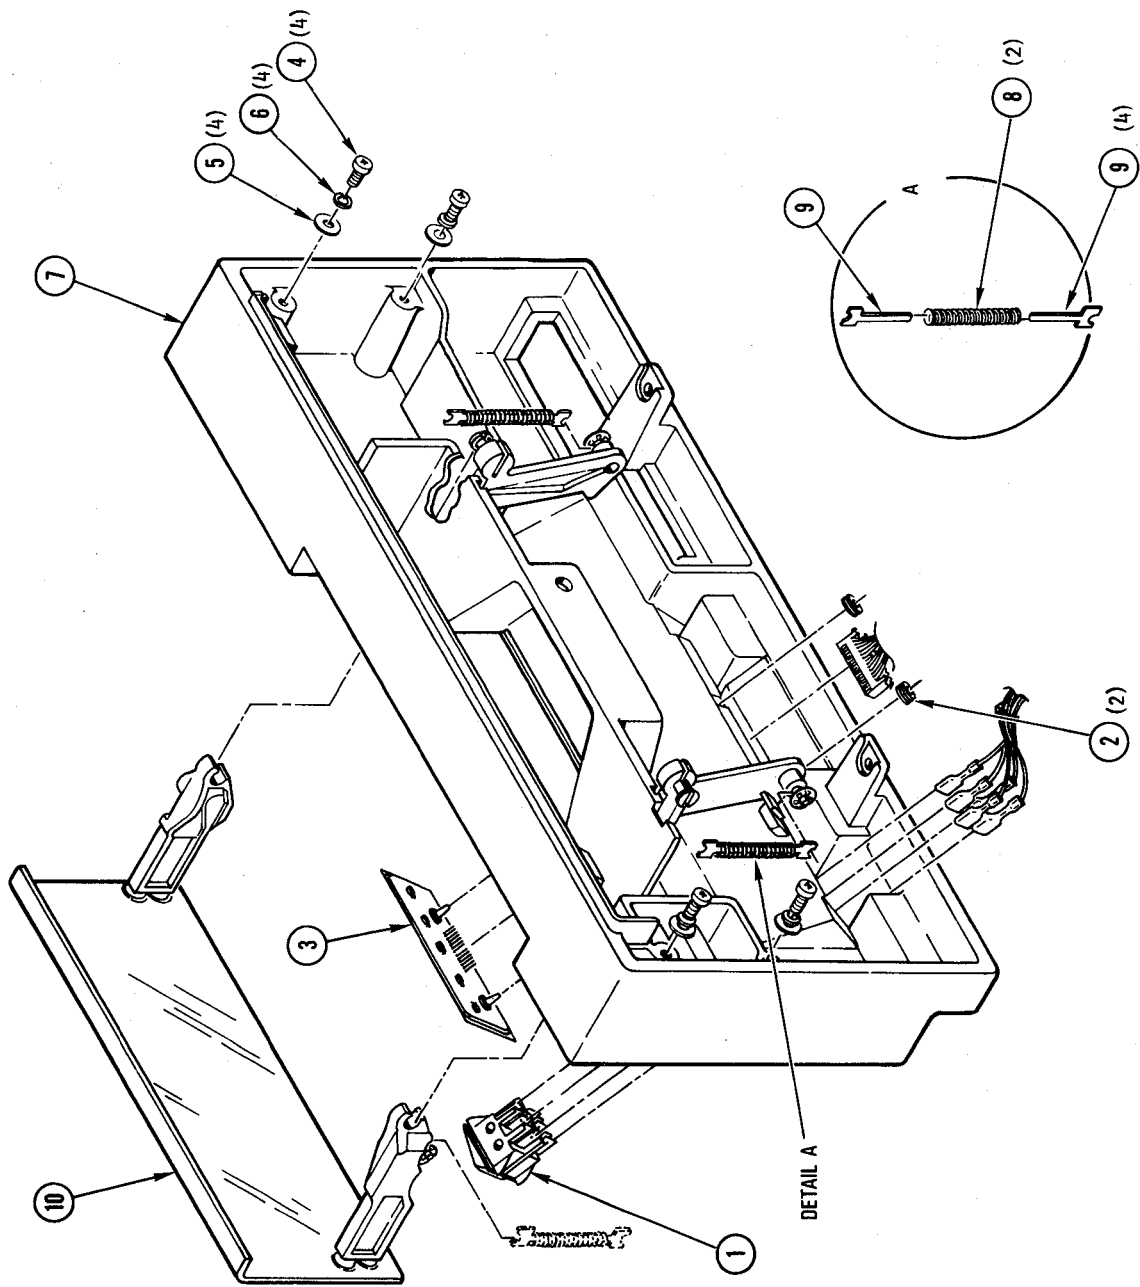

Figure 4-7. Front Panel Assembly
4-19. Power Switch Replacement. To replace the power switch (1, Figure 4-7), proceed as follows:
4-20. **Touch Switch Replacement.** To replace the touch switch (3, Figure 4-7), proceed as follows:
4-21. **Front Panel Subassembly Replacement.** To replace the front-panel subassembly (7, Figure 4-7), proceed as follows:
4-22. Removal And Replacement of Door Assembly. To replace the door assembly (10, Figure 4-7), proceed as follows:
- b. Remove two springs (8) and four guides (9), and push door out of front panel, using finger pressure on back of door from under side of panel.
- c. Install door assembly in front panel subassembly by snapping arms onto plastic studs of front panel assembly, as indicated in Figure 4-7.
- d. Assemble guides (9) with springs (8), with flat surfaces of guides in contact with each other.